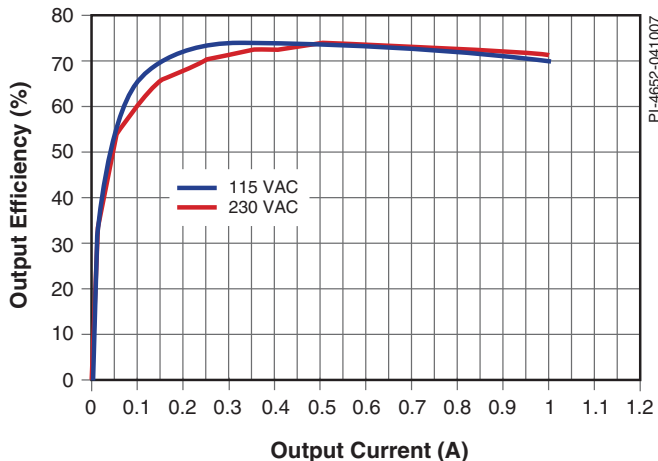

Figure 2. Efficiency vs. Load Current.
The four source pins on one side of the DIP8 (P) package allow for a simple heatsink to be used. Figure 2 shows the active mode efficiency of the power supply plotted against load.